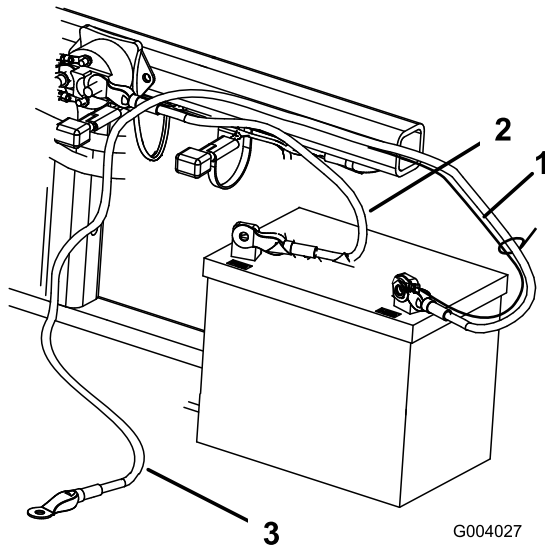

Figure 5
2. Secure the positive cable (red) to the positive (+) terminal with a 1/4 x 5/8 inch bolt and locknut (Figure 5).
3. Secure the small black wire and the negative cable (black) to the negative (-) terminal of the battery with a bolt (1/4 x 5/8 inch) and locknut (1/4 inch) (Figure 5).